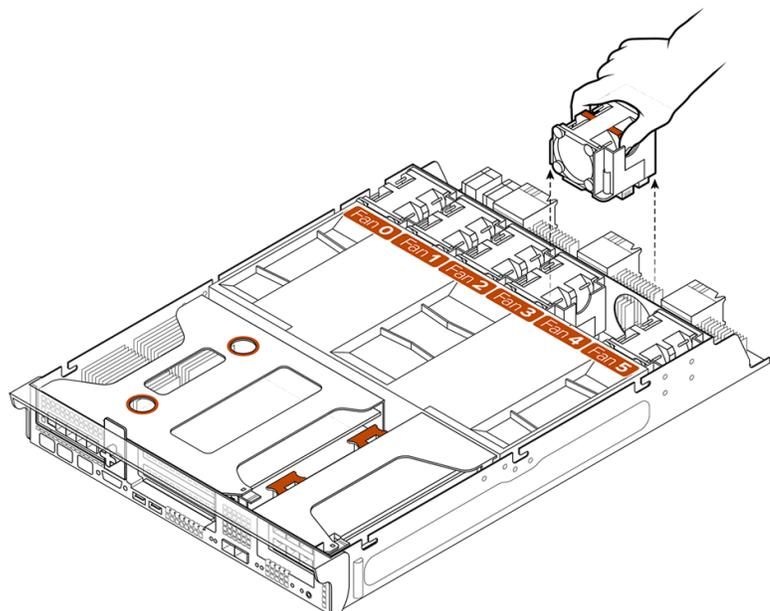

Figure 10-11. Replacing a Fan
1. Grasp the faulty fan by its frame and gently pull it out of the controller chassis. See Figure 10-11.